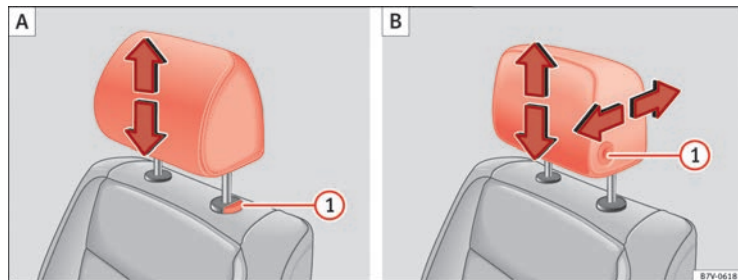
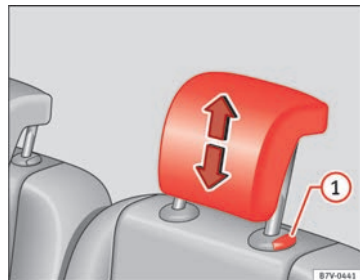

Fig. 85 A: Adjust the head restraints with no possibility of lengthways direction adjustment, B: Adjust the head restraints with lengthways direction adjustment
Fig. 86 Adjust the head restraints in the second or third row of seats
- Raise the head restraint in the direction of the arrow or lower it ⇒ Fig. 85 or ⇒ Fig. 86 ① with the button pressed ⇒ .
- Push the head restraint forward in the direction of the arrow or backward ⇒ Fig. 85 ①  with the button pressed.